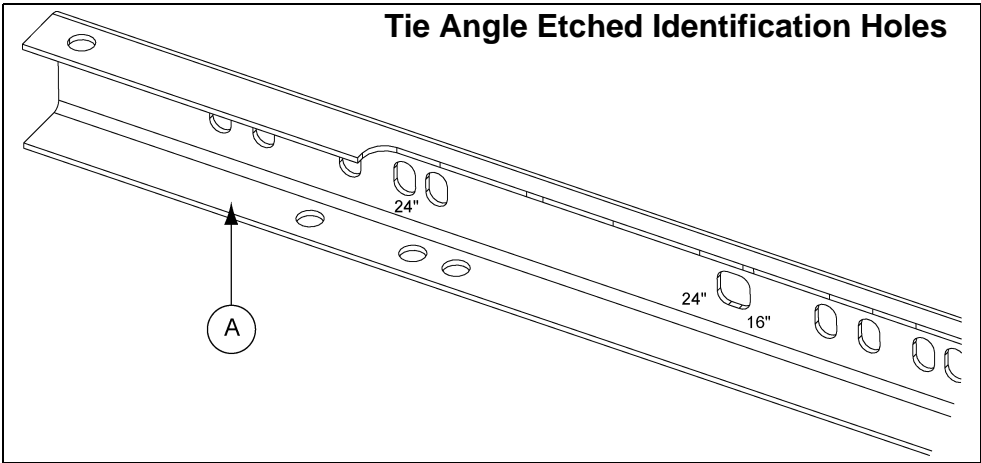

Figure 7A Tie Angle with Etched Numbers
- 1. Install rest platform tie angles to the lower trunking on both the ladder side and non-ladder side of the trunking. Use 1/2" x 1" bolts through the bolt holes indicated for the bucket elevator size being installed. (See Figure 7A.)